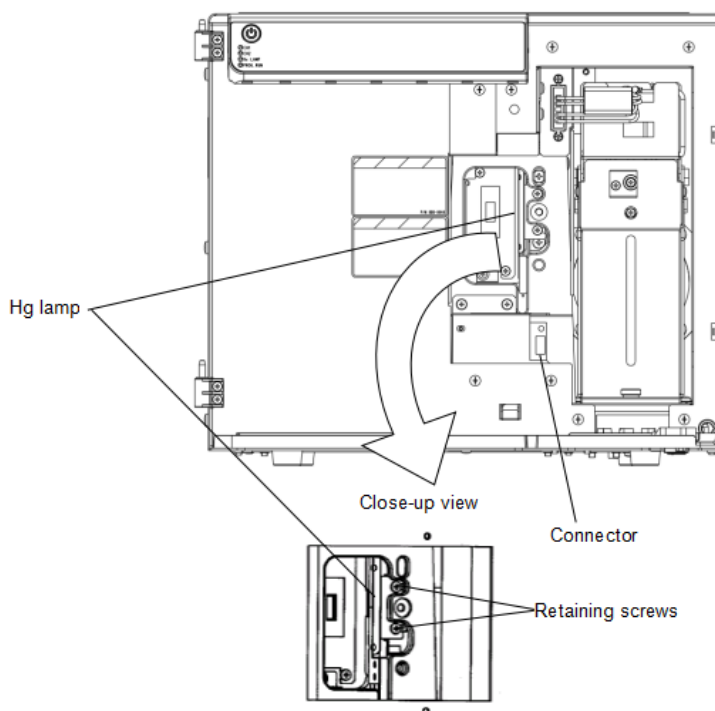

Fig.8-13 Removing the mercury lamp
- ④ Remove the flow tank.
- ⑤ After removing the cover of the mercury lamp, you can see the mercury lamp fixed on the right side of the instrument (Figure 8-13).
- ⑥ Remove the socket connecting the mercury lamp to the main engine, loosen the two fixing screws, and take out the mercury lamp.